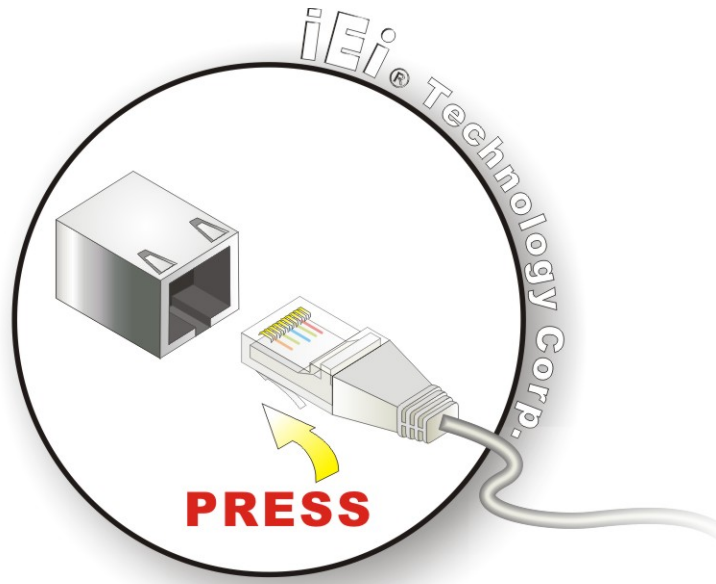

Figure 4-16: LAN Connection
Step 2: Align the connectors. Align the RJ-45 connector on the LAN cable with one of the RJ-45 connectors on the NANO-PV-D510A. See **Figure 4-16**.